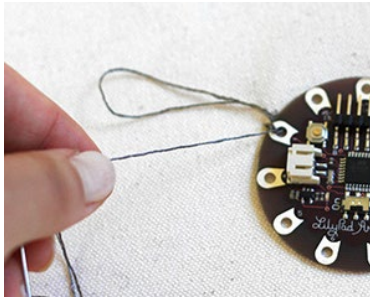

Figure 32: Check both the front and back of the fabric for excess thread
Step 6. Make sure the thread is taut before each time the needle is passed through the fabric. There shouldn't be any loops in the thread, and we shouldn't be pulling the material so much that the fabric wrinkles or the thread breaks. Check both the front and back of the fabric that there is no excess thread (Figure 32). Untangle any knots, as loopy threads can cause short circuits (Figure 33).